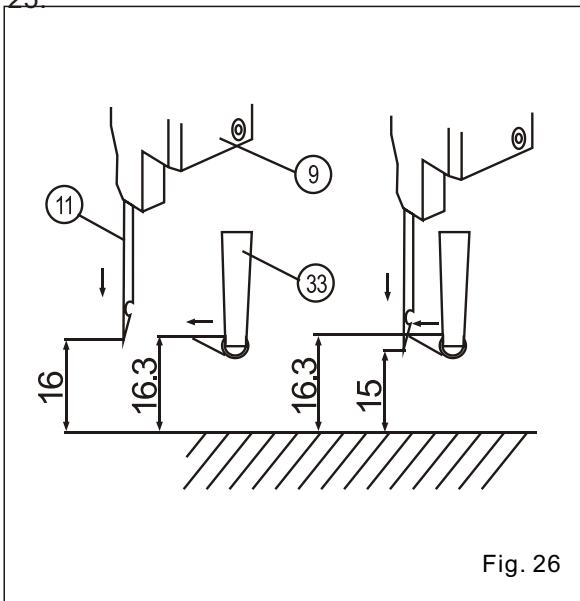

Fig. 26
(6) Keep the point of upper thread hook (No.33 in Fig. 26) 16.3mm above the needle plate, as indicated in Fig. 26.
(7) Place the needle bar in the starting position of the first cycle, and keep it 1mm away from the upper dead center. The space between needle plate and needle point shall be 15mm, as indicated in Fig. 26.